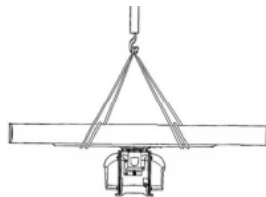

Fig 2-4 Improper way to hoist
- When hoisting the scanner by a crane, do not hoist it by attaching a belt or a rope only to the scanner's radiating section as shown in **Fig 2-4 Improper way to hoist**.